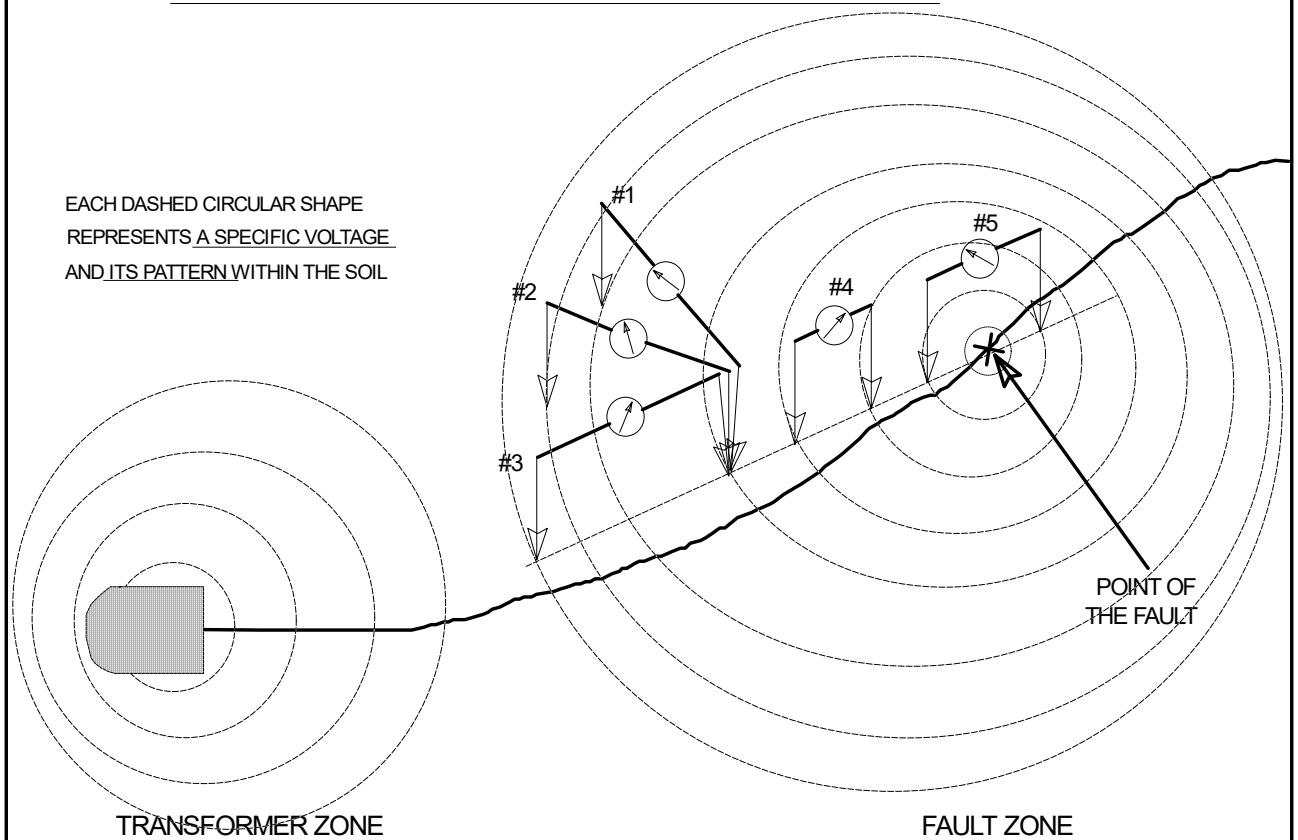

Figure 2
1.3 TAKING READINGS – Let's look at Figure 2 (pg 11) for the basic method of taking readings with the instrument. Here the readings are represented as circular shapes, each being a specific voltage's pattern that is generated at the surface of the ground. You also see there is an area that is labeled the transformer zone on the left and the fault zone to the right. Of course, you cannot know immediately where the fault zone is, but you do know where the source transformer is and where the customer's meter base or street light is. With this in mind the following rule was developed (by user experience in the field) as a time saving approach to finding the point of the fault.
Let's assume that the first location of your probes is represented by position #1 as shown in Figure 2. Assuming that there is sufficient A.C. voltage signal from the fault to cause the instrument's meter to give an up-scale indication, you can make a mental note of how high the reading is at that position. Leave one of the probes in place and move the other one about 45 degrees **C**ounter **C**lock **W**ise (CCW; ie, ☺) around from its original position. This brings you into position #2 and you can see a higher reading than you had in position #1.
Successive readings, moving the one probe CCW (☺) will bring you to the point of "highest" relative reading. This "highest" reading position establishes the 'general direction' of the fault. This is the path indicated by the dashed line that is drawn between the probe tip positions on the ground. Next, you will have to determine which way you should move along the dashed line shown in Figure 2. Move along the line in either direction you choose. If the reading you get after moving is higher than the previous then continue to move along the line in that direction. If the reading is lower than the first then go the other direction along the line and follow that procedure until you approach the point of the fault.
1.4 – THE ZERO READING POINT – As you move closer to the fault, you will have to turn the SCALE ADJUST knob counterclockwise (CCW; ☺) in order to keep the indicating needle of the panel meter from staying pegged solidly at the right side of the scale. Again, what you will observe is a pattern of increasing readings as you move toward the fault. Then as you pass one probe just beyond the point where the fault actually is you will notice a decline in the relative reading. Moving the probes in football chain fashion in the same direction will again result in a lower relative reading. If you go too far the readings will rise sharply at first; but, as you continue moving in that direction the readings will become lower and lower. However, you can find a point shown as position #5 in Figure 2 where the reading is essentially **ZERO**. At this point you will be standing directly above the fault. Why does a ZERO reading indicate the point of the fault? Realizing that the voltage patterns in the soil are in the shape of concentric circles around the point of the fault, note the diagram of dashed lines in Figure 2. Thus, when you have both probes on the same "voltage pattern circle" there is no difference for the instrument to read, hence it will indicate ZERO. ***It is this ZERO reading position that you are looking for.***
Now let's look at Figure 3 (pg 12). You will notice that it is essentially the same as Figure 2 but another set of readings is shown. Here you see that the 'general direction' indicated by position #C establishes a second line of direction and this second line intersects the one that was established in Figure 2. It is at this point of intersection that you would *expect to find the fault*. This is referred to as the triangulation technique for locating the point of the fault. You probably see already how to achieve this but let's run through it briefly;